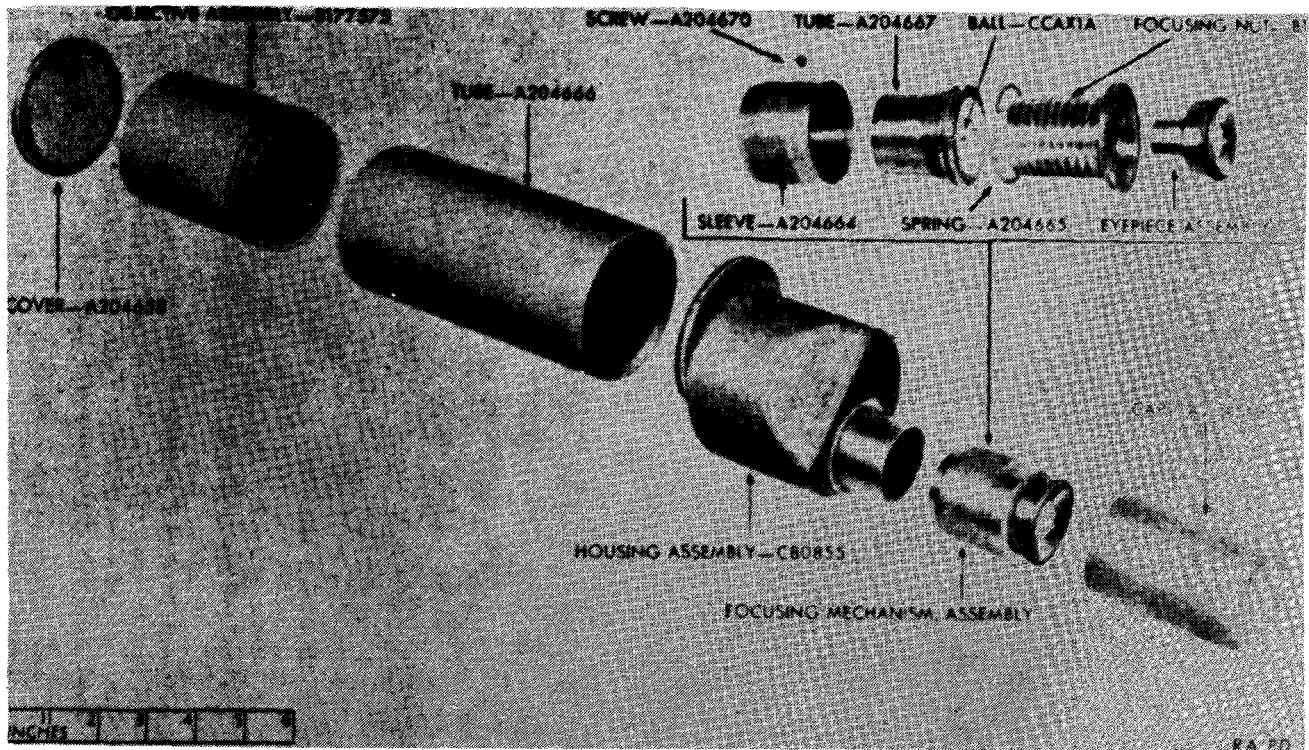
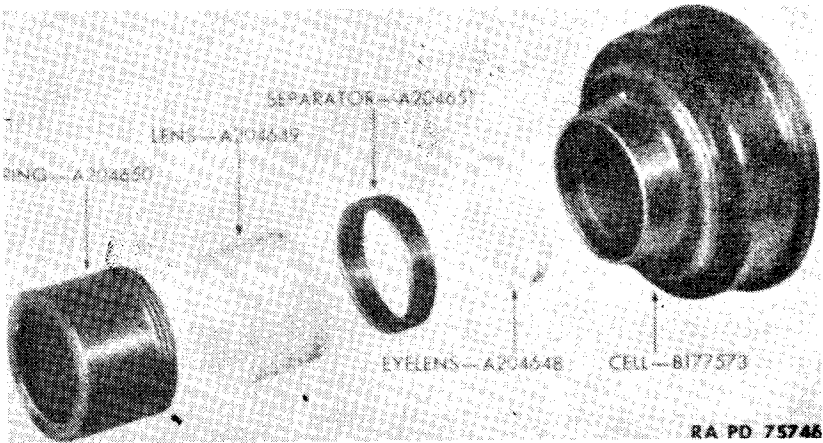
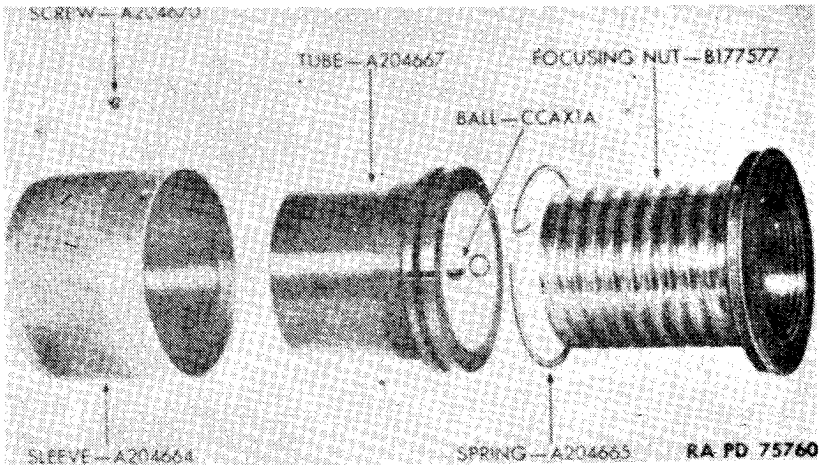
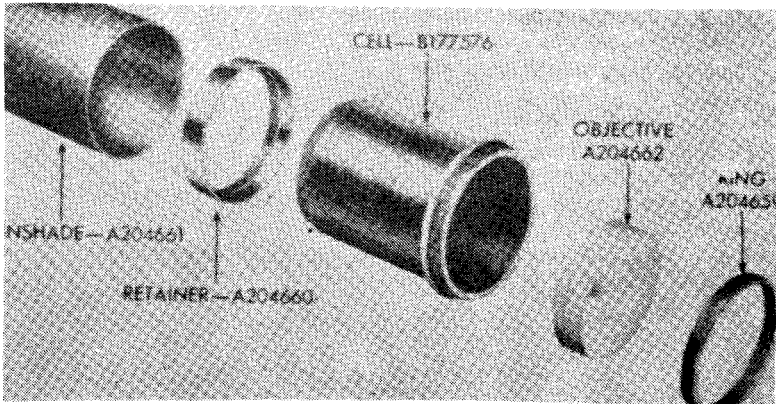

Figure 8—Observation Telescope M48—Partially Disassembled
Figure 9 - Observation Telescope M48-Eyepiece Assembly Disassembled
Figure 10 - Observation Telescope M48-Focusing Mechanism Assembly Partially Disassembled
Figure 13-Observation Telescope M48-Objective Assembly Disassembled
(1) Remove the eyepiece cover cap (fig. 8). Carefully unscrew the eyepiece assembly (fig. 8) and wrap it in clean tissue paper.
(2) Unscrew the focusing nut locking screw A204670 (fig. 8). Unscrew the eyepiece focusing nut sleeve A204664 (fig. 10) from the focusing nut. Unscrew the focusing nut from the eyepiece focusing nut tube A204667. Remove the ball and spring from its recess.
(3) Unscrew the focusing tube (fig. 8) from the prism housing. Slide off the focusing sleeve.
(1) Unscrew the retaining ring (fig. 9). See figure 8 for components of Observation Telescope M48.
(2) Hold the eyepiece assembly, with the field lens down, and gently tap around the edges of the cell to release the field lens. Repeat the procedure to free the eyelens, tapping more vigorously if necessary. NOTE: Be careful to hold the eyepiece assembly over a soft pad or piece of folded tissue when performing this operation. Do not permit the bare finger or table to come in contact with the polished surfaces of the lens. After removal, wrap the lens in lens tissue paper and store in a safe place.
(1) Remove focusing mechanism with eyepiece assembly from prism housing assembly (fig. 8).
(2) Unscrew the prism housing assembly (fig. 8) from the body tube.
(1) Unscrew the retainer (fig. 13) and remove the sunshade which slides over the objective cell.
(2) Unscrew the objective cell (fig. 13) from the body tube A204666 (fig. 8).
(3) Remove the retaining ring from the back of the objective cell and gently tap out the objective. NOTE: Be sure to hold the cell over a tissue pad or other soft surface when performing this operation to prevent damage to the objective. If the objective does not come out easily, crumple a piece of lens tissue paper into the cell and, with a piece of lens tissue paper between the thumb and the objective, gently push out the objective. Clean the lens immediately after removal, wrap carefully, and lay aside in a safe place until reassembly.
(1) Place the focusing sleeve in position so the crimped edge is next to the shoulder of the prism housing. Screw the focusing tube into position. Replace the ball spring A204665 on the tube. Place the ball CCAX1A in its recess (fig. 8).
(2) Carefully wipe all dust and grease from the focusing nut. Place a light coat of grease on the threaded surface of the focusing nut. Carefully slide the nut into position. Screw the focusing sleeve into the focusing nut and replace the locking screw. Check the operation of the focusing nut. The lateral movement should be smooth for its entire length of travel.